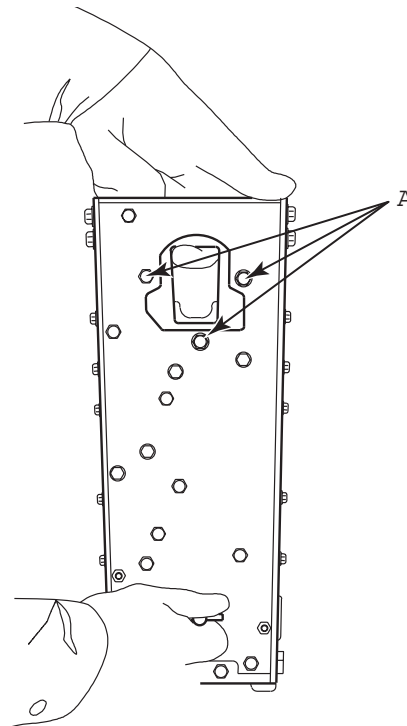

Figure 3-6. Hopper Chain Adjustment
1. Loosen the three screws at the top back of the hopper, which will allow the black plastic upper chain guide ring to move diagonally upwards, as shown in *Figure 3-6*.
2. Pull the upper chain guide ring up as shown in *Figure 3-6*, while you rotate the drive pin clockwise until the slack is removed from the chain but no binding is evident.